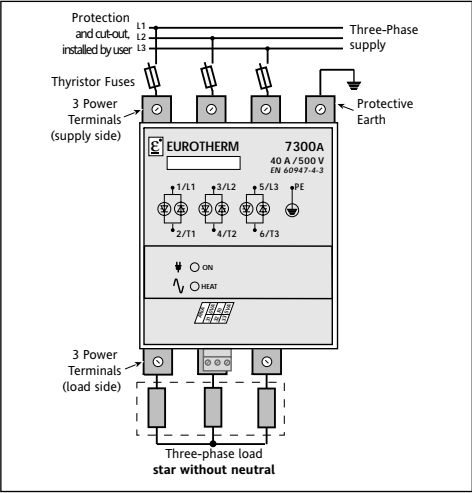

Figure 2-7 Connecting a three-phase load using star without neutral configuration (3S)
- star without neutral (3 connection wires, code 3S), figure 2-7